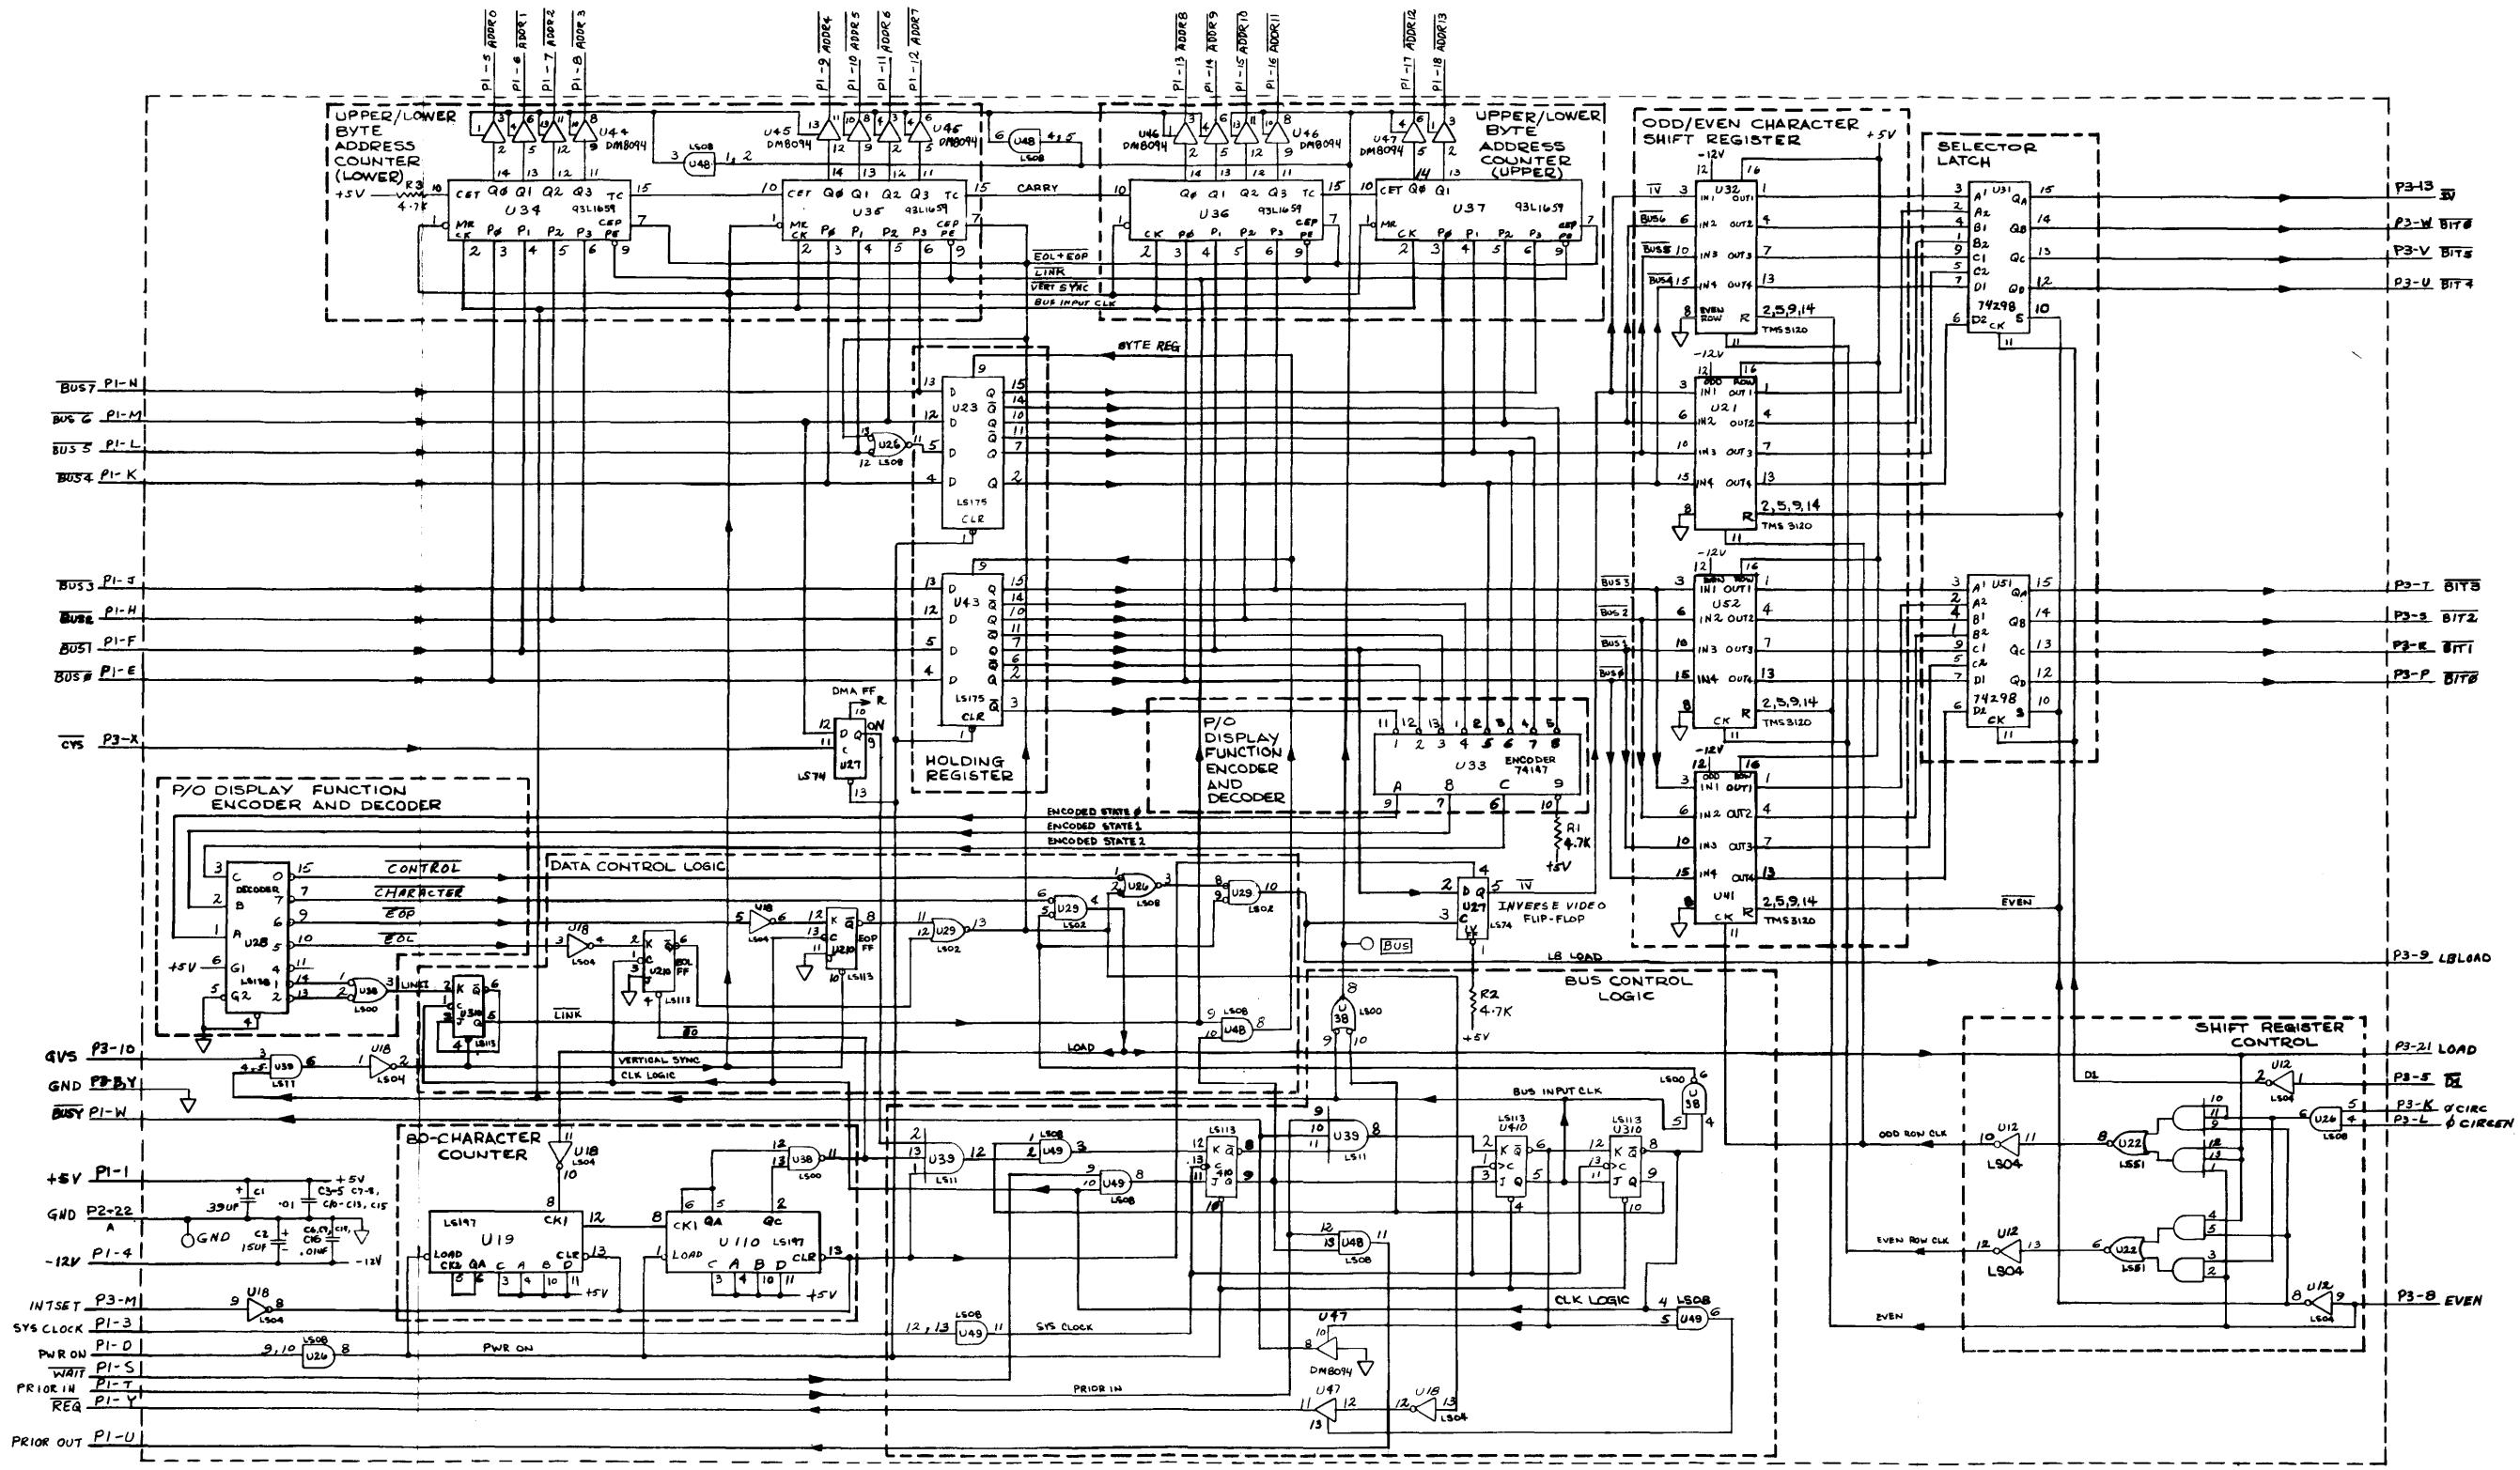
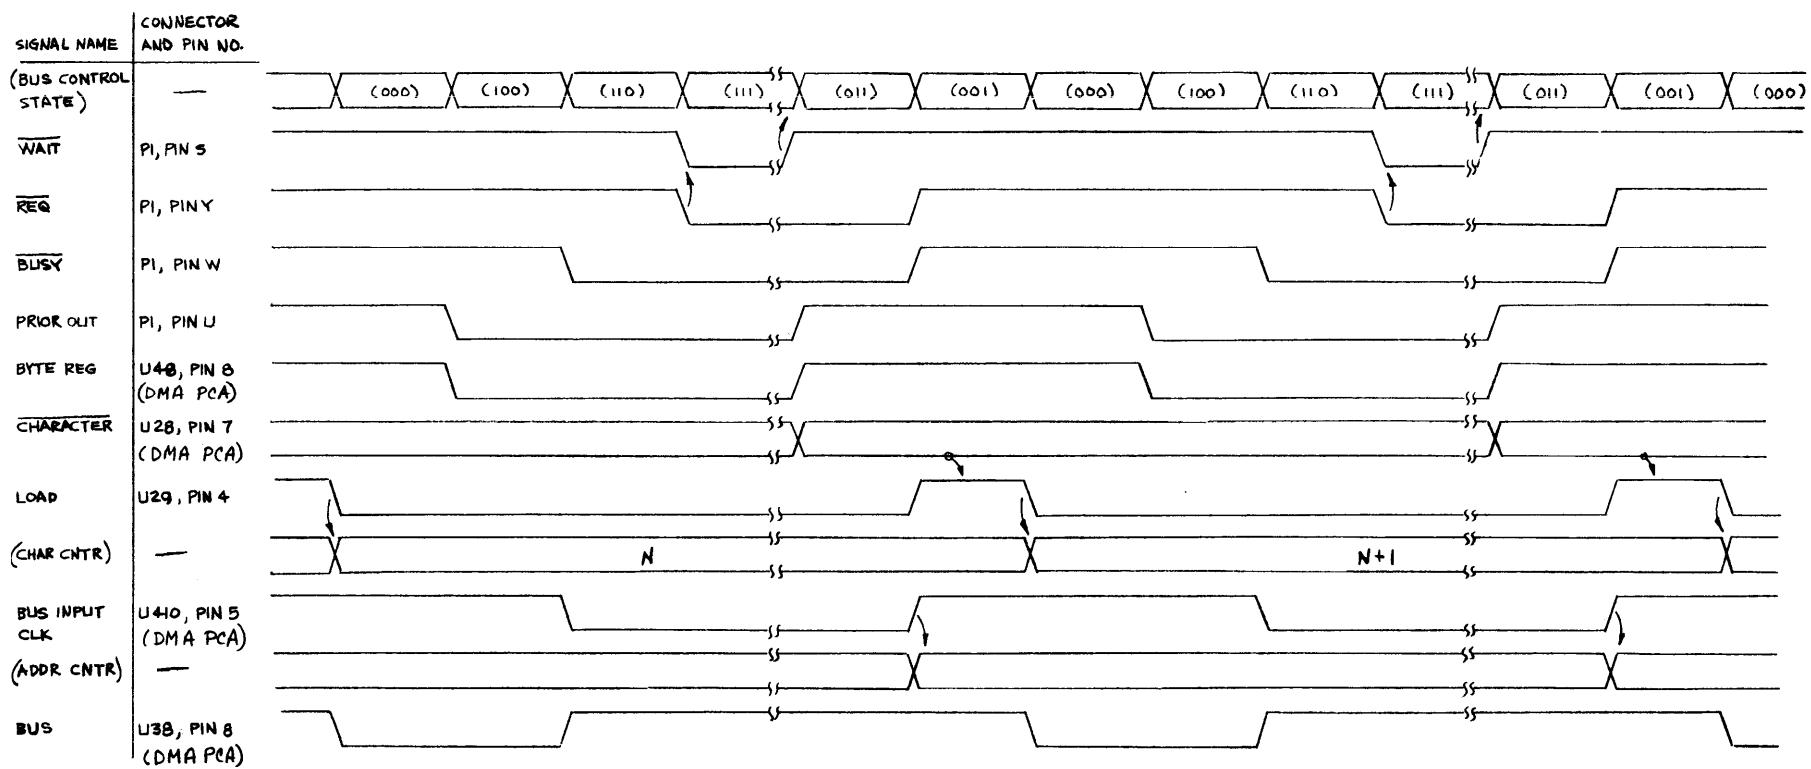

Figure 11
Figure 12
4.0 FUNCTIONAL DESCRIPTION - DMA PCA. Refer to the DMA PCA block diagram (figure 10),schematic diagram (figure 11),timing diagrams (figures 12 through 14), DMA data encoding (figure 15), component location diagram (figure 16), and parts list (02640-60009) located in the appendix.